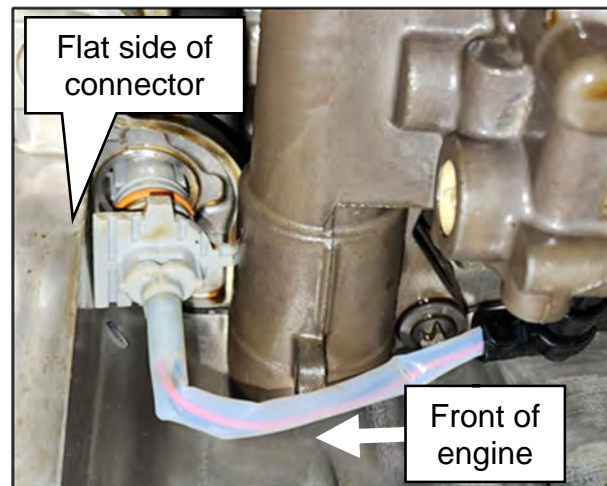

Figure 14
- Orient the wiring harness connector so that the flat side faces the front of the engine as shown in Figure 14.